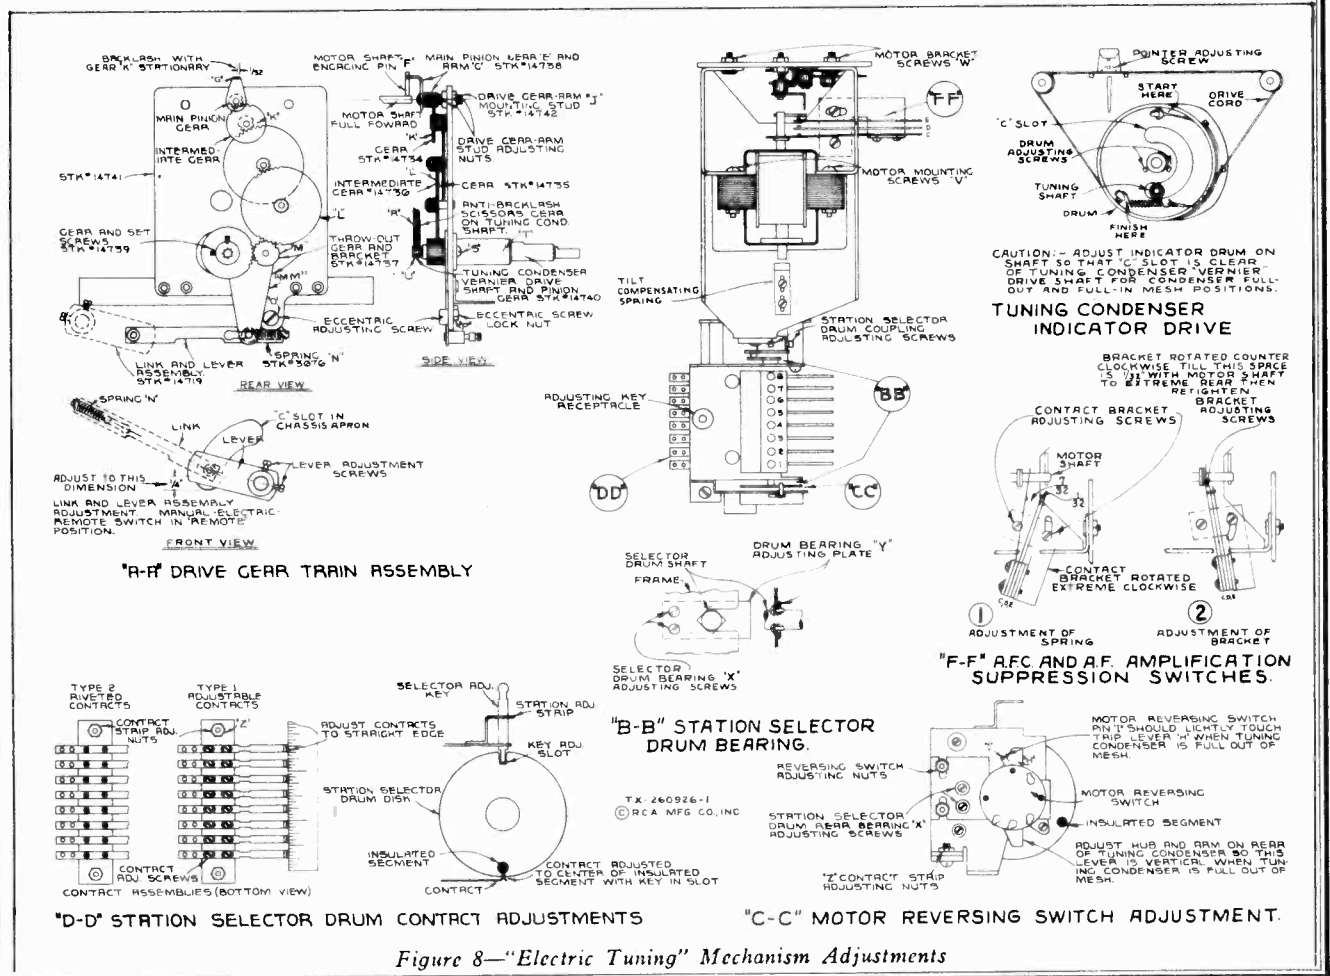

Figure 8—"Electric Tuning" Mechanism Adjustments
The electric tuning mechanism is designed to be as simple in construction and as fool proof in operation as is possible. In order to maintain the accurate results possible with this device care must be taken in effecting any repairs or adjustments. Reference should be made to figure 8 and the following:
**Station Selector Drum.**—(1) Bearing Adjustment—The selector drum may be removed by unscrewing the two bearing adjusting screws "X" on the front and rear bearings and sliding shaft out of slots on frame. To replace drum, the reverse procedure should be followed holding bearing adjusting plates "Y" firmly against the shaft and tightening adjusting screws. (2) Contact adjustment—Two types of contact strips are used. They are designated on figure 8, as types 1 and 2, on which the individual contacts are respectively adjustable and fixed. On type 1, the individual contacts should be adjusted by setting the end contact springs near the mid-position of their travel and aligning the remaining springs to them by means of a straight edge. Either type of contact strip should be adjusted to the selector drum by placing two selector adjusting keys in the station adjustment strip, positions 1 and 8, loosening contact strip adjusting nuts "Z" and shifting the contact strip until the end contacts are exactly centered on the respective disc insulating segments. More accurate adjustment may be made by silhouetting the point of contact with a piece of white paper held behind the contact. Adjustment will be facilitated by removing complete assembly from rear of tuning condenser by unscrewing the three mounting screws. Contacts and discs must be kept free of dirt, filings, and other extraneous matter.
**Lubrication.**—The dial pointer slide should be greased with petrolatum. This same lubrication should be applied lightly to all gear faces of the drive mechanism and sparingly with a cloth to the station selector discs. Any good household oil, such as "3-IN-ONE," is suitable for the motor shaft bearings. A light grade of engine oil should be used for all gear bearings. Medium viscosity engine oil, similar to "PYROIL" (B), should be applied between the thrust washers on the motor shaft. "CASTORDAG," a mixture of graphite and castor oil, is recommended for use at the selector drum end-bearing slots and at the bearings of cable pulleys.